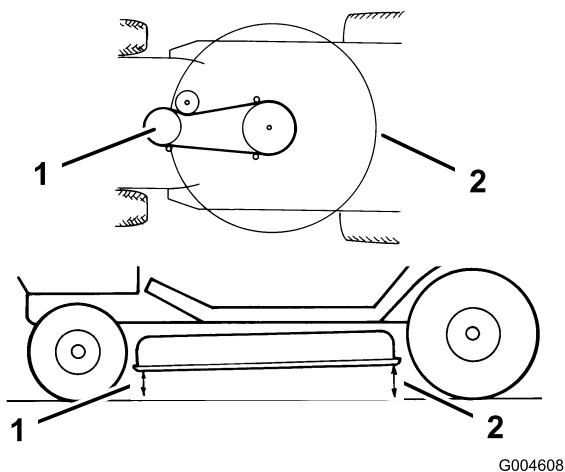

Figure 46
10. Check the front-to-rear blade slope by measuring between the bottom of the mower (front center and rear center) and the flat surface (Figure 46). If the front of the mower is more than 5/8 inch (16 mm) lower than the rear of the mower, adjust it; refer to steps 11 through 17.